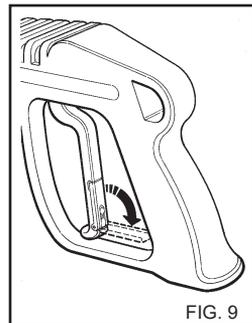

FIG. 9
- When the water cleaner is not used, close the safety device on the handle. (fig. 9)